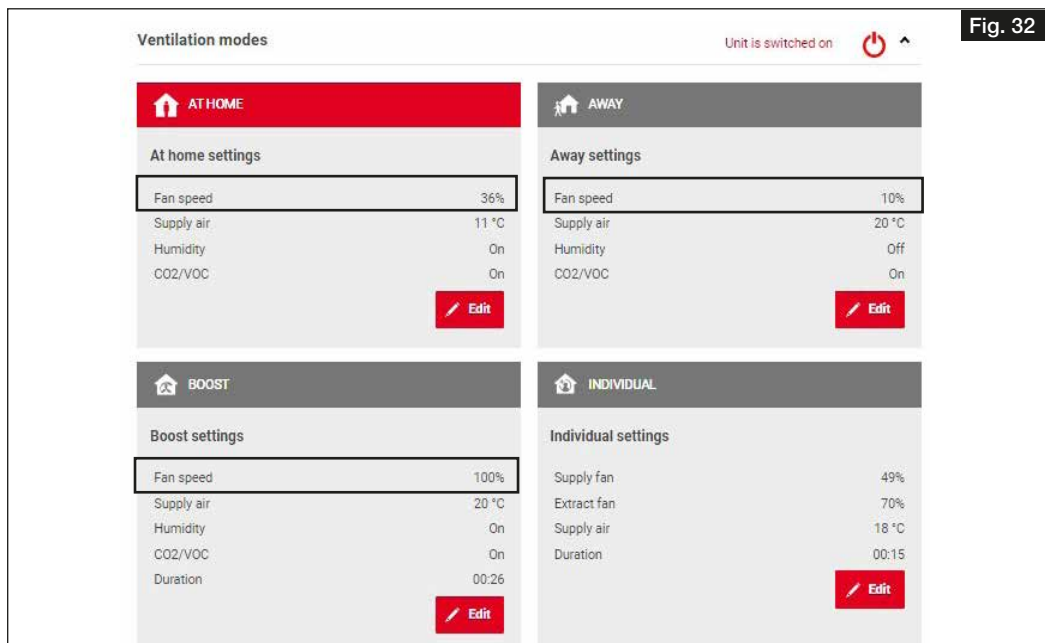

Fig. 32
2. The approximate fan powers to be set (in %) can be read from the ventilation profiles at the points of intersection of the flow rates and the system characteristic curve. Enter these in the corresponding ventilation profile via the easy-Controls software or the control element KWL-BE Touch (cf. Fig. 31 and Fig. 32).